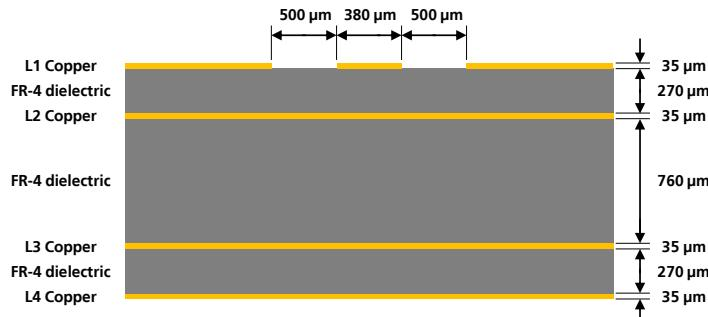
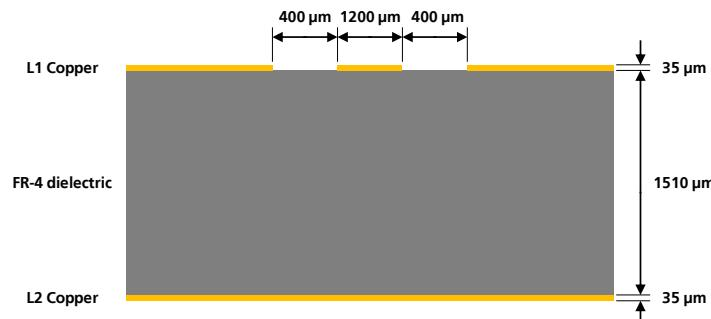

Figure 57: Example of  $50 \Omega$  coplanar waveguide transmission line design for the described 4-layer board layup
Figure 58: Example of  $50 \Omega$  coplanar waveguide transmission line design for the described 2-layer board layup
Figure 57 and Figure 58 provide two examples of proper 50 Ω coplanar waveguide designs. The first transmission line can be implemented in case of 4-layer PCB stack-up herein described, the second transmission line can be implemented in case of 2-layer PCB stack-up herein described.
- the thickness of the transmission line itself (e.g. 35 μm in the example of Figure 57 and Figure 58)
- the thickness of the dielectric material between the top layer (where the transmission line is routed) and the inner closer layer implementing the ground plane (e.g. 270 μm in Figure 57, 1510 μm in Figure 58)
- the dielectric constant of the dielectric material (e.g. dielectric constant of the FR-4 dielectric material in Figure 57 and Figure 58)
- the gap from the transmission line to the adjacent ground plane on the same layer of the transmission line (e.g. 500 μm in Figure 57, 400 μm in Figure 58)